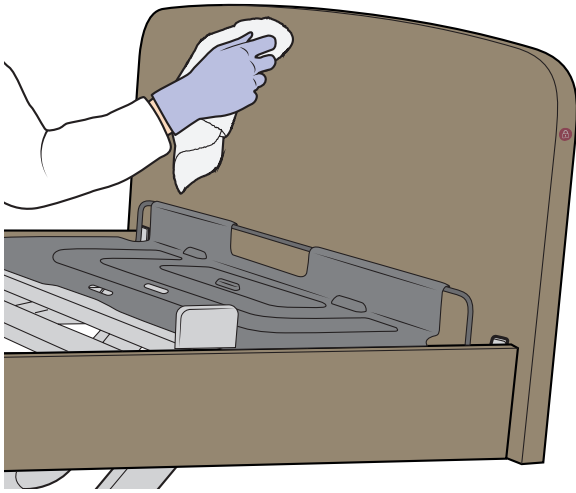

Figure 80
3. Wearing suitable protective clothing, clean all surfaces with a disposable cloth moistened in hand-hot water and a neutral detergent, or an appropriate disposable cleaning wipe. See Figure 80.